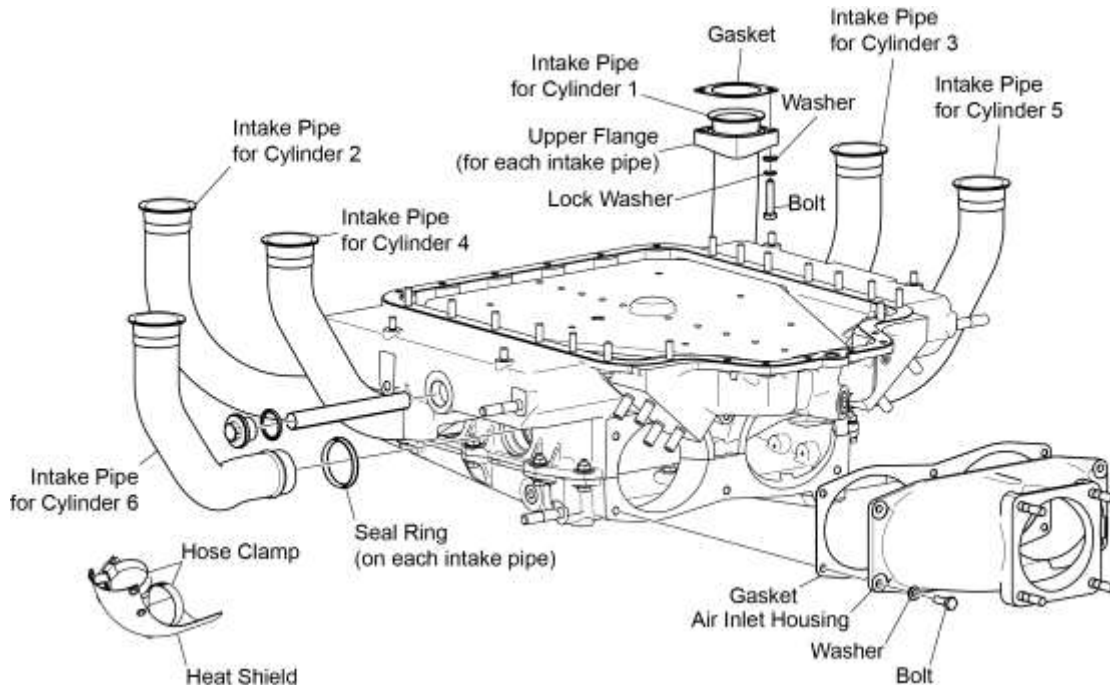

Figure 2
NOTICE: Each engine cylinder has a corresponding intake pipe of a different part number. Be sure to replace the intake pipe with the correct replacement intake pipe that corresponds to the engine cylinder number (Figure 2). Refer to the *TEO-540-A1A Illustrated Parts Catalog* for the part numbers of the correct replacement intake pipes.
- (1) If removing intake pipe (Figure 2) for either Cylinder Nos. 5 or 6, loosen the hose clamps and remove the heat shield and two hose clamps.
- (2) Remove the two bolts, lock washers, and washers from the intake pipe flange at the engine cylinder (Figure 2). Discard the lock washers.
- (3) Remove the gasket from the intake pipe, discard the gasket.
- (4) If the intake pipe is not to be replaced, attach a label to the intake pipe that identifies the corresponding engine cylinder number for reference on assembly.
- (5) Remove the intake pipe and seal ring at the oil sump connection. Discard the seal ring.
- (1) Install the intake pipe with a new seal ring at the oil sump (Figure 2) in the oil sump opening for the corresponding cylinder.
- (2) Attach the corresponding intake pipe to the correct engine cylinder flange with a new gasket, two bolts, two new lock washers, and two washers. Torque the two bolts to 96 to 108 in.-lb. (11 to 12 Nm).
- (3) Install a heat shield with two hose clamps. Tighten the hose clamps to hold the heat shield securely in place.